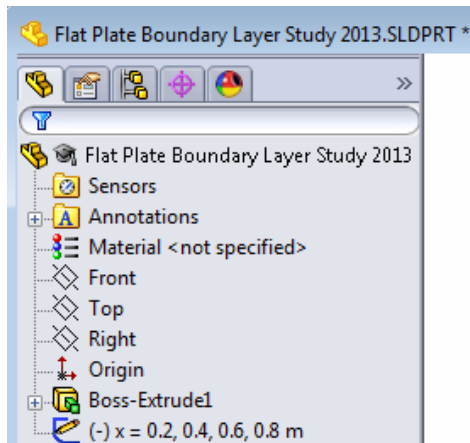

Figure 2.8 Renaming the sketch for boundary layer velocity profiles
- Repeat step 7 three more times and add three more vertical lines to the sketch, the second line at  $X = 400$  mm with a length of 40 mm, the third line at  $X = 600$  mm with a length of 60 mm and the fourth line at  $X = 800$  mm with a length of 80 mm. These lines will be used to plot the boundary layer velocity profiles at different streamwise positions along the flat plate. Close the **Insert Line** dialog . Save the SolidWorks part with the following name: **Flat Plate Boundary Layer Study 2013**. Rename the newly created sketch in the **FeatureManager design tree**, see figure 2.8. Click on the **Rebuild** symbol  in the SolidWorks menu.